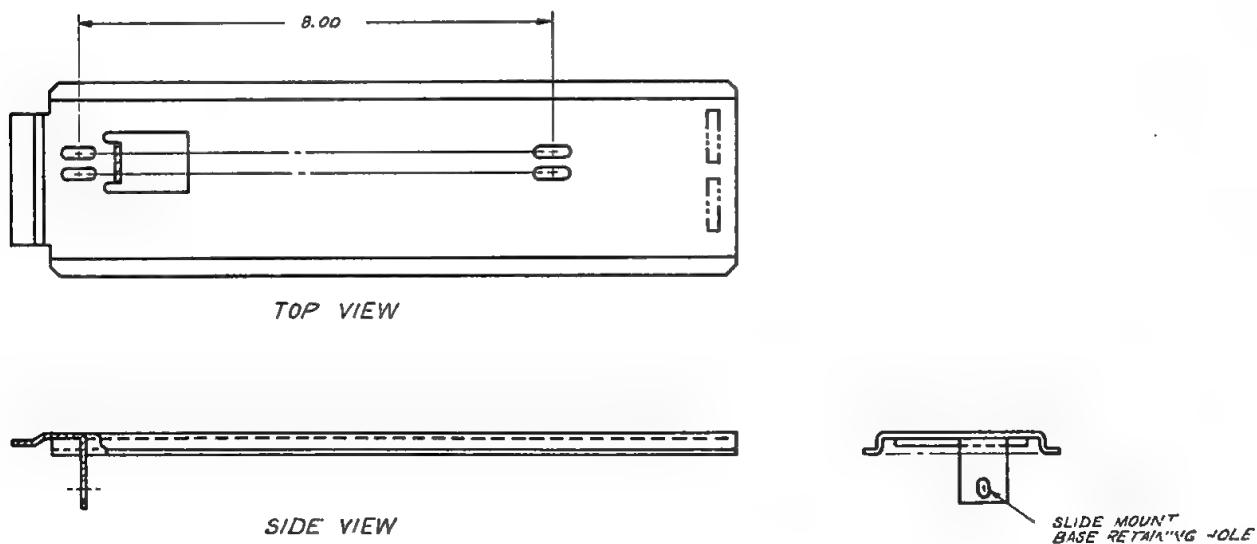

Figure 2-11. Peripheral Slide Mount Base
- Install the drive mount base on the peripheral to be installed. The drive mount base should first be centered on the base of the peripheral, then attached with 8-32 x 1/4" screws, see Figure 2-11.